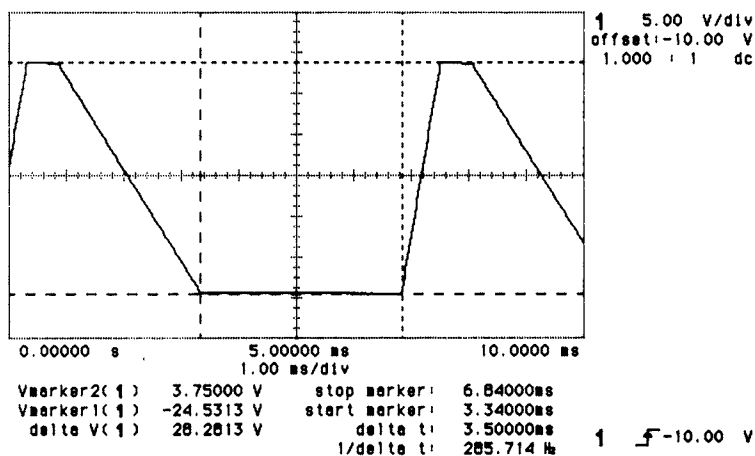

Figure 3-83. A Sampler Balance Adjustment Waveform
24. On the oscilloscope press **SHOW**. The VCO TUNE waveform displayed on the oscilloscope should be similar to Figure 3-83. Use the oscilloscope **ΔTΔV** markers to measure the waveform maximum and minimum voltages, and the dead time between consecutive voltage ramps.